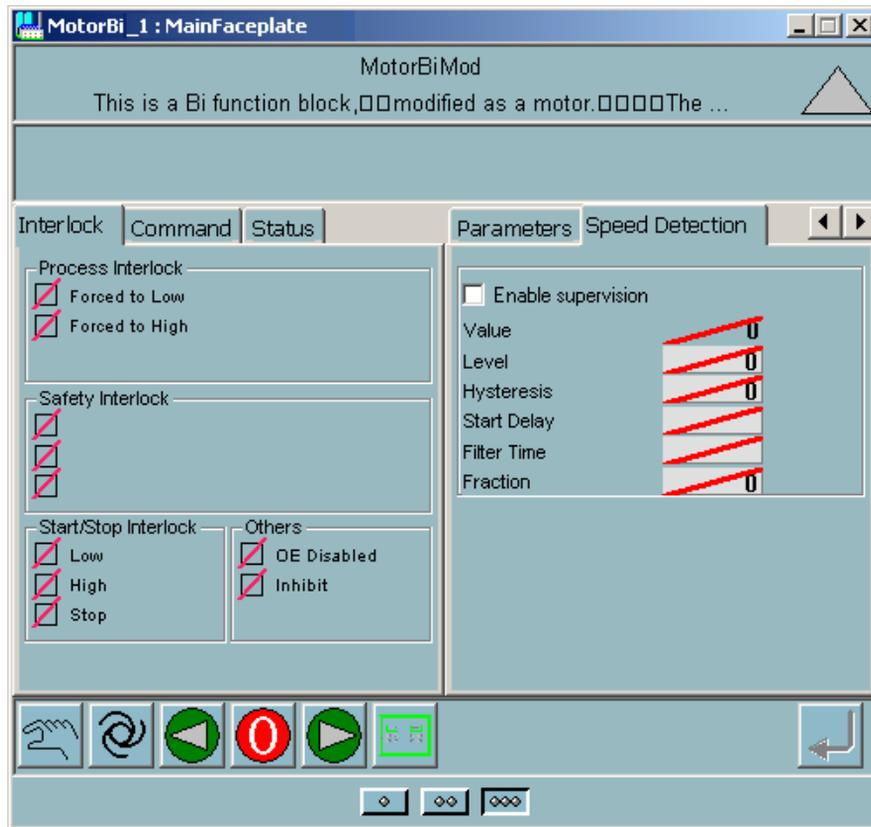

Figure 256. The newly added Speed Detection tab in the extended faceplate
17. Select the Speed Detection tab placed in the right side of the faceplate to view the newly added graphics, as shown in Figure 256.